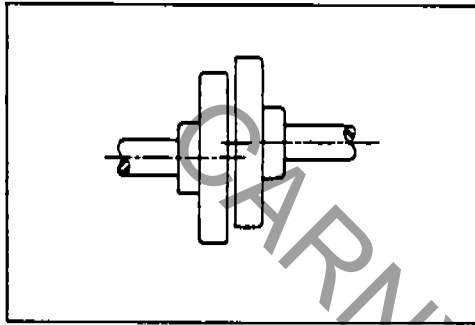
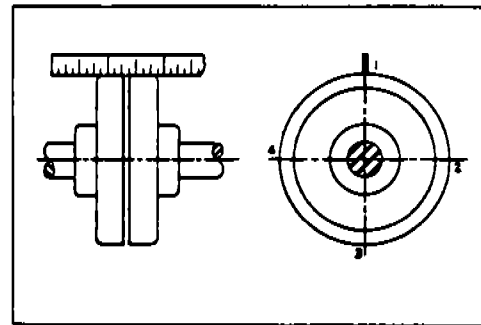

Figure 2
Figure 4
OPERATION- When a polyphase fluid coupling motor is started the motor should accelerate to approximately 80% of synchronous speed within 5 to 10 seconds. The output shaft of the coupling may require a longer time, as much as 60 to 90 seconds, to accelerate. Single phase motors should not require more than 3 to 5 seconds to accelerate to a speed above that at which the short circuiter or cut-out switch operates. The load may take many times this interval to come up to rated operating speed. When the coupling does not cushion the starting shock sufficiently, or if a high inertia load is being started and the motor does not come up to speed quickly, reducing the oil level in the coupling will improve the operation. This level should be reduced until the motor starts and comes up to 80% of synchronous speed quickly (not over 10 seconds) while the load accelerates more slowly. When satisfactory performance has been obtained, the new "Top for Filling" mark should be established by painting the fill number or by marking the coupling housing in some manner. Note: (The fill level must not be lower than that obtained with figure 4 fill).
Parallel misalignment is illustrated in Figure 2. Where the misalignment is in the vertical plane, it can be corrected by altering the height of either of the shafts. If the misalignment is in the horizontal plane, it usually is easy to correct by moving one of the components transversely until the correct position is obtained. When both halves of a coupling are of the same outside diameter, parallelism can be checked by the use of a straight edge at points 1, 2, 3, and 4 as shown in Figure 4.
2. Parallel Misalignment (Figure 2)